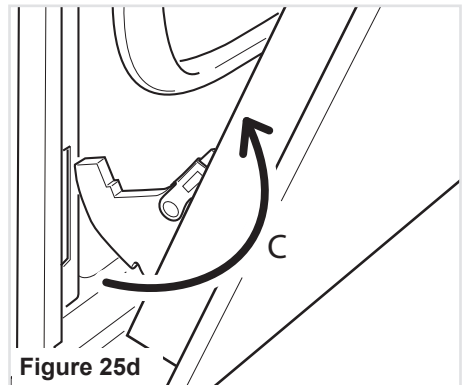

Figure 25d
- Withdraw the hinge hooks from their location following arrow "C" (fig. 25d).